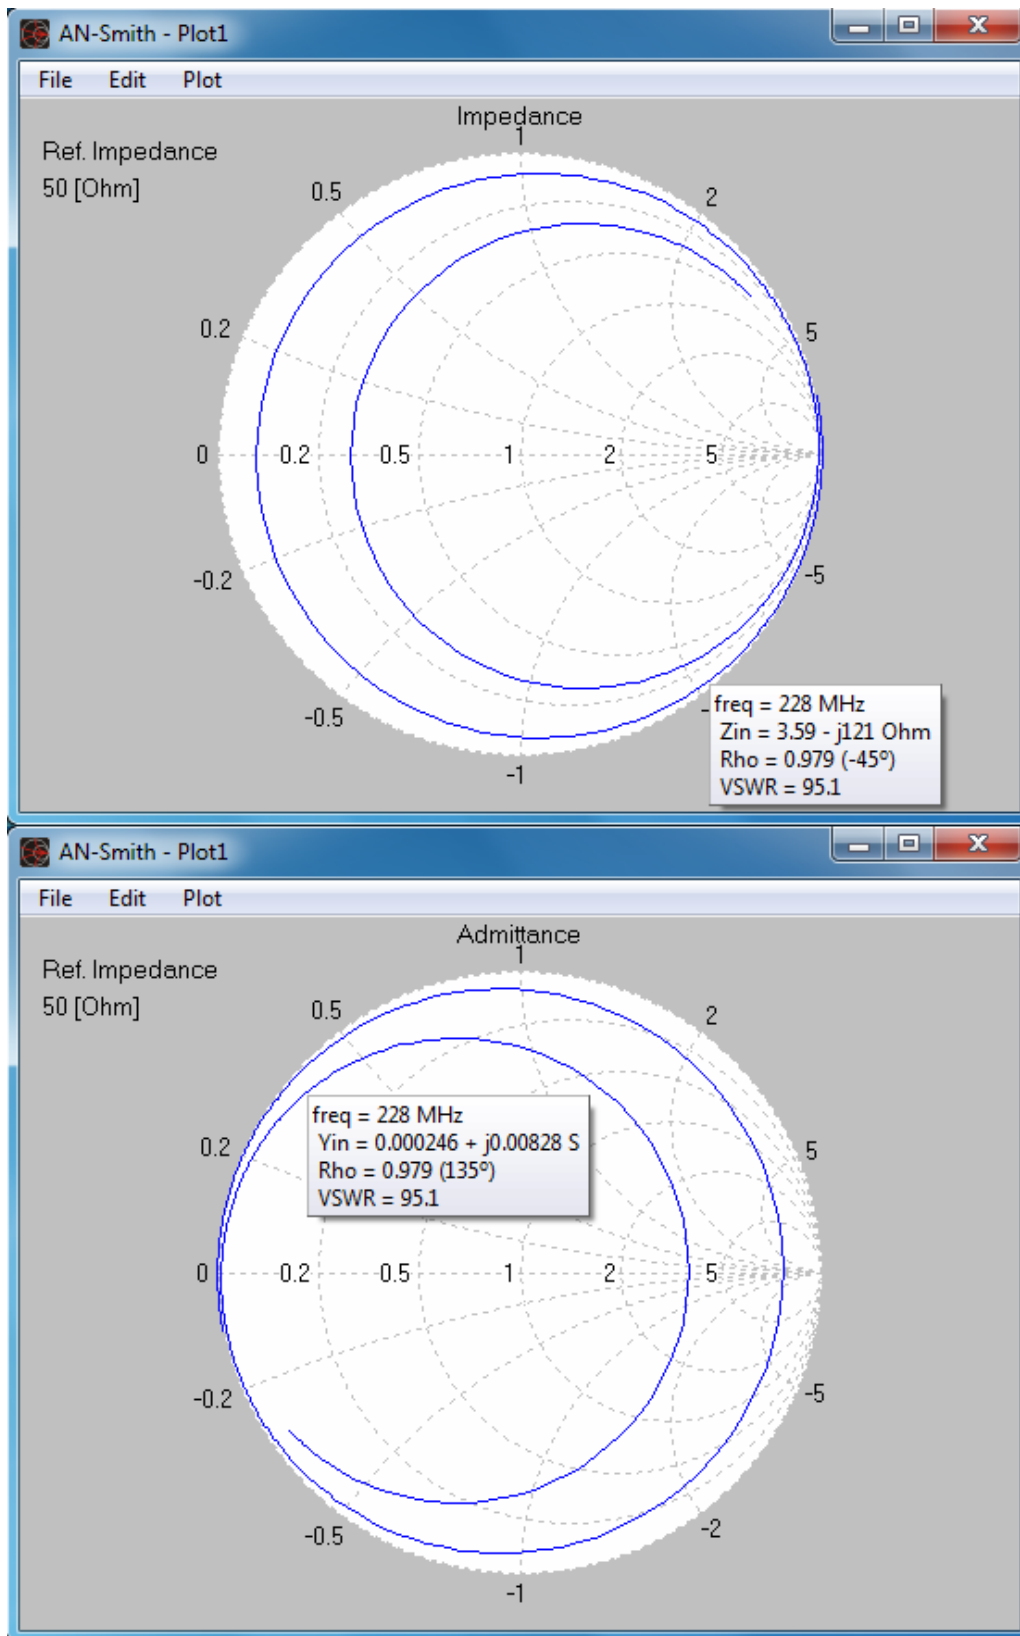

Fig. 14.13: Input impedance and admittance plotted in a Smith chart.
Step 7: Follow the procedure described in Section 13.5 for showing Smith charts. The input impedance curve will be plotted by the AN-Smith® program, Fig. 14.13. The input admittance can be seen by pressing Plot/Admittance in the AN-Smith® main menu.